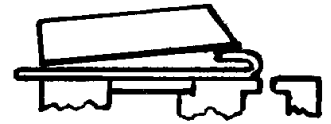

FIGURE 2
3. Fully flatten lip by using magnetic clamping only. Position workpiece as shown in Figure 2. Press safety button and lift handle slightly.